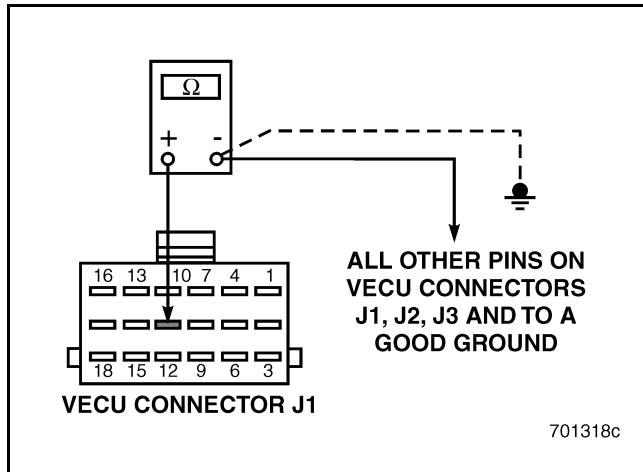

Figure 688
5. Check for continuity between VECU connector J1 pin 11 and all other pins on VECU connectors J1, J2 and J3 (see Figure 688). Also check for continuity between VECU connector J1 pin 11 and a good ground.